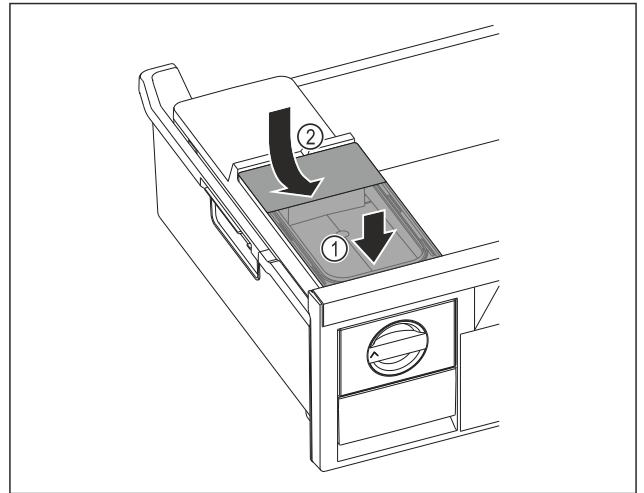

Fig. 114
- Position the water tank at the front. Fig. 114 (1)
- Lower the water tank at the rear. Fig. 114 (2)